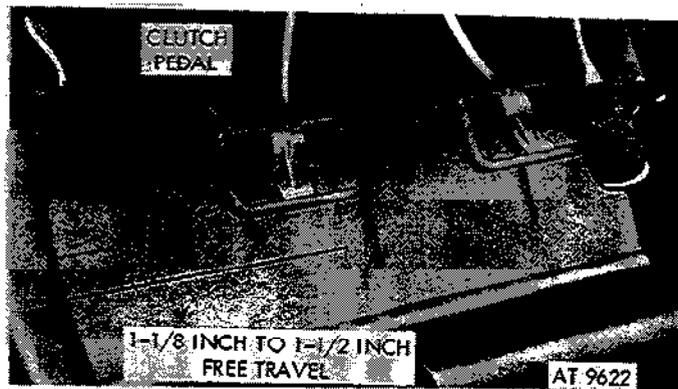

Figure 2-78. Clutch pedal free travel.
(3) Depress clutch pedal and check for pedal free travel of $1\frac{1}{8}$ inches to $1\frac{1}{2}$ inches (fig. 2-78).